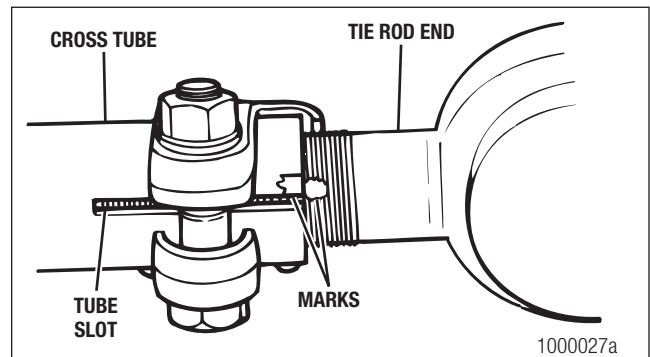

Figure 5.2
- a. Mark the position that each tie rod end is installed into the cross tube. Count and record the number of threads that appear outside of the cross tube. Figure 5.2.